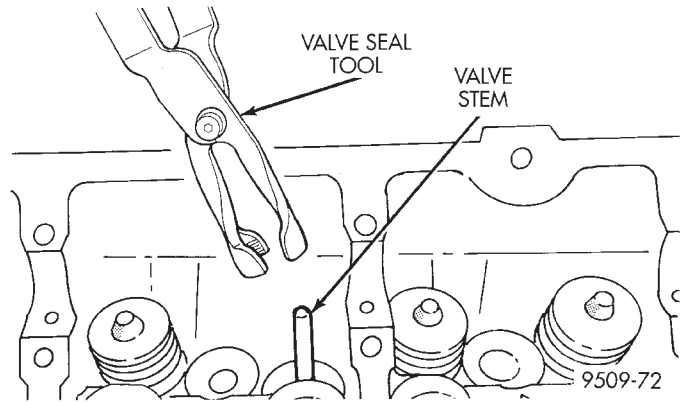

Fig. 47 Valve Stem Oil Seal Tool
- (1) Coat valve stems with clean engine oil and insert in cylinder head.
- (2) Install new valve stem seals on all valves using a valve stem seal tool (Fig. 47). The valve stem seals should be pushed firmly and squarely over valve guide.